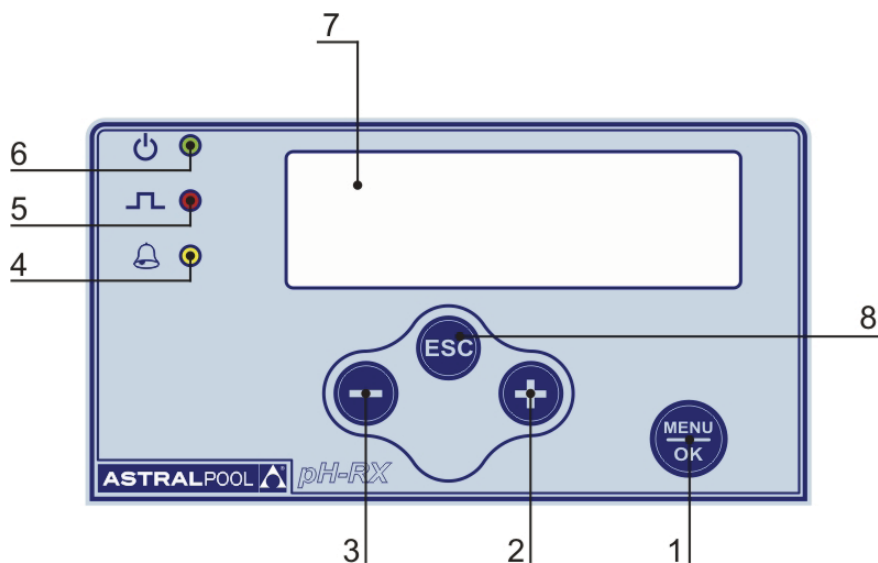

Fig. 11
This operation can also be done with the pump disconnected from the plant by turning the pump upside-down for 15 to 30 seconds and without connecting the hose to the nipples; if impossible, dismount and remount the pump head (Fig. 11) using the four mounting screws.
6.1 - COMMANDS (Fig. 11)